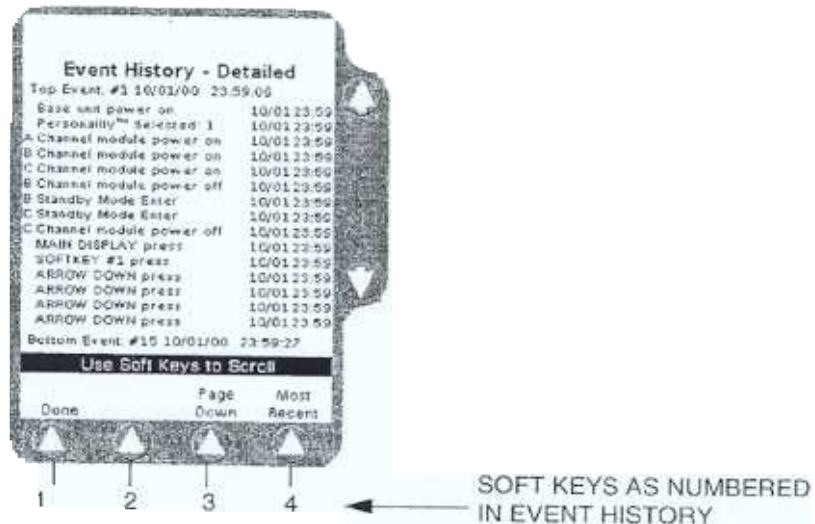

Figure 5-14 Example of Event History Display
Soft key presses are indicated in the event history by a number (1 through 4) corresponding to the soft keys as shown in Figure 5-14. The function of the soft keys varies depending on the Main Display screen displayed at the time.
- Press the **Select** soft key. The **Event History** screen (Figure 5-14) is displayed.